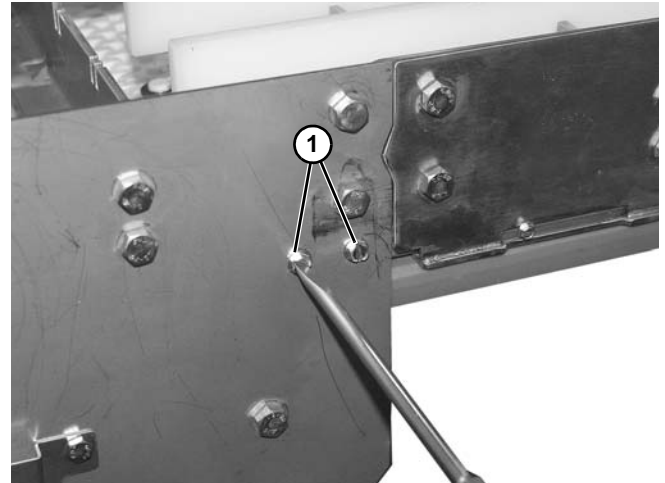
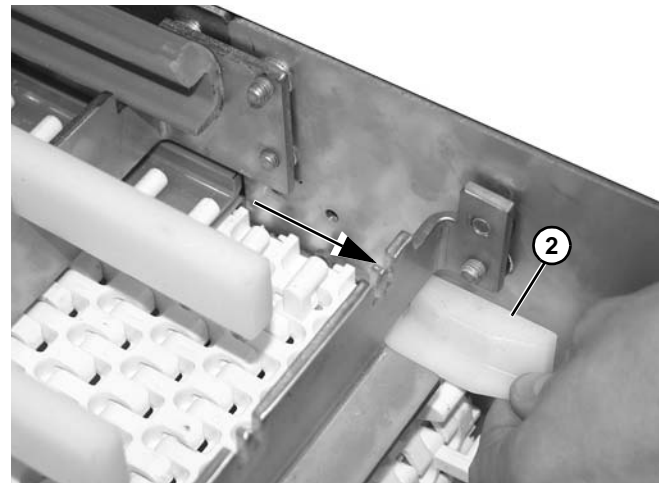

Figure 88
Figure 89
4. Remove two screws (Figure 88, item 1) and belt guide (Figure 89, item 2). Repeat on opposite side.